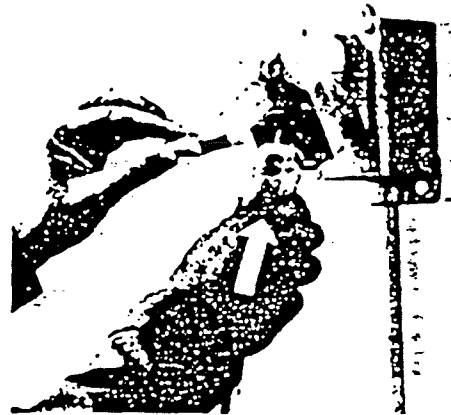
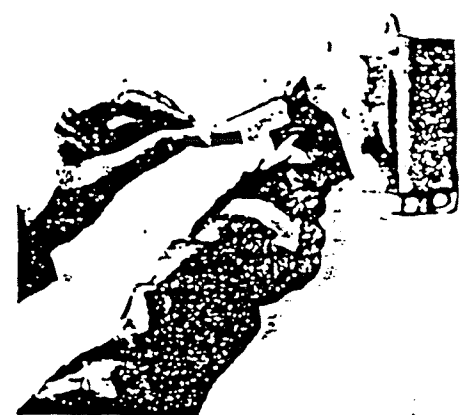

Figure 1
Figure 2
- Ark-Gard 2 ENR receptacle incorporates three spring-loaded slide keys that prevent the receptacle face plate from being rotated until the ENP plug is fully inserted into the receptacle. To make the connection, the ENP plug is fully inserted; and the receptacle face moved inward by pushing the plug forward (Fig 1). The plug is then rotated, (Fig 2), closing the circuit. As rotation begins, the plug becomes locked in the receptacle and cannot be accidentally disengaged. In making or breaking the circuit, any resulting electrical arc is confined in the factory-sealed chamber